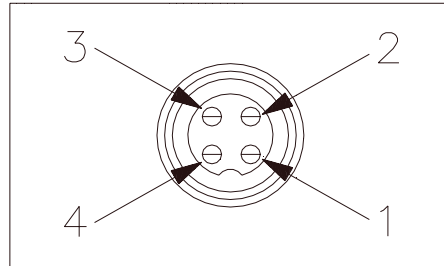

**Fig. 2** Microphone plug wiring
4. Feed the microphone cable through the housing, knurled ring and washer as shown Figure 2.
6. Be sure that the housing and the knurled ring of Figure 2 are pushed back onto the microphone cable before starting to solder. If the washer is not captive to the pin receptacle body, make sure that it is placed on the threaded portion of the pin receptacle body before soldering.